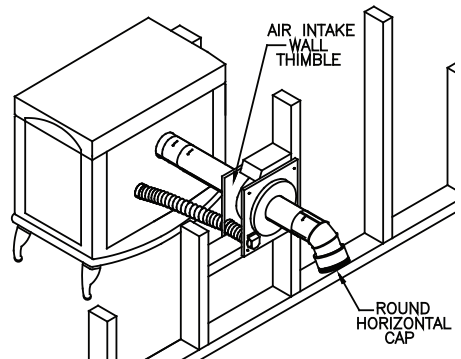

Figure 13
excess flex to required length with snips. Secure flex to combustion air inlet of the stove with clamp provided. Only connect metal flex to the appliance; do not substitute or install plastic flex. The cover plate comes installed on the lower left corner of the thimble with intake guard pointing downward to deflect rain. If it is desired to rotate thimble and air inlet to another corner, remove the (2) screws on the inlet guard and re-attach over air inlet at new location. Secure black interior half of the Wall Thimble to the interior wall, and the unpainted exterior half are to be secured to the exterior wall on both styles of thimbles (Figure 13). The Wall Thimbles adjust to fit walls from 4"-8" thick. For installation in thicker walls an extension tube may be field fabricated.
5. If the flue exit is on back of the stove, and a horizontal through-the-wall installation is desired (**Figure 13**):